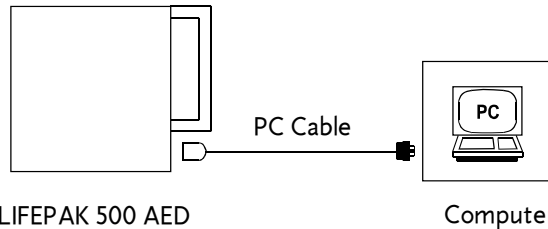

Figure 4-5 Equipment connections for data transfer by direct connection to a computer
- 2 Connect the equipment as shown in Figure 4-5.